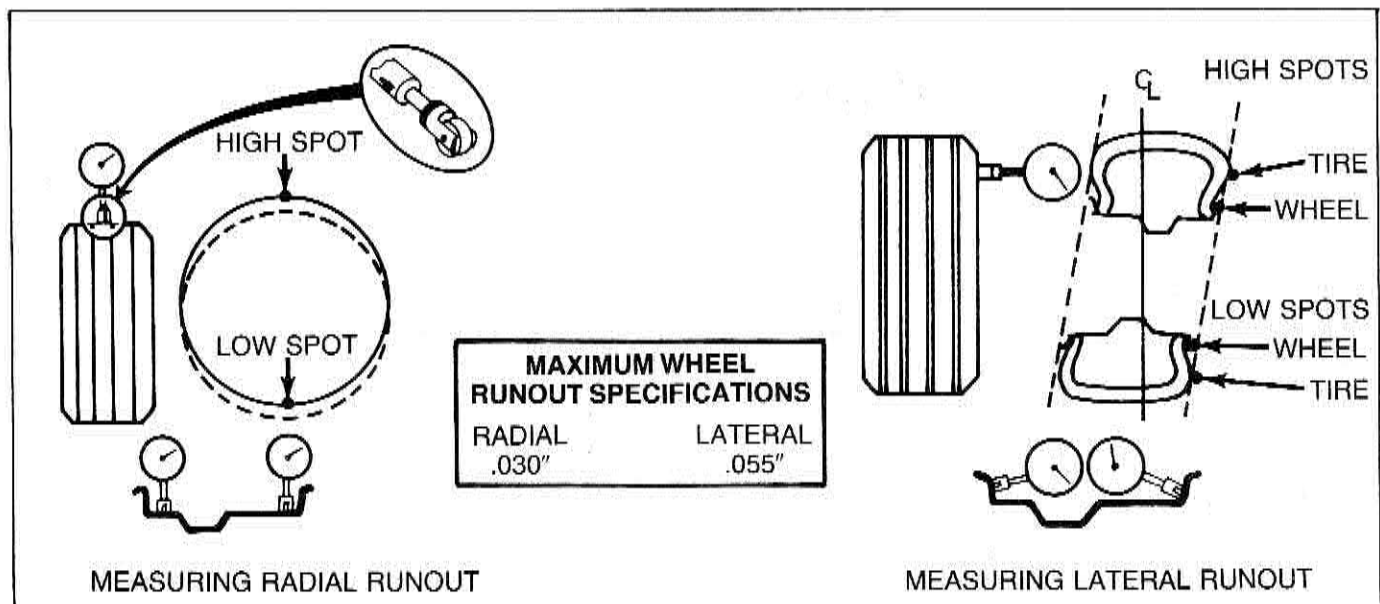

Figure 3-21 — Radial/Lateral Runout Measurement
3. Remove the tire from the rim and measure both the radial and the lateral runout at the bead area of the rim as shown in Figure 3-21. Using chalk, mark the high point on the radial runout of the rim.
4. Check the runout specifications listed in Figure 3-21. If the runout does not exceed the listed specifications, remount the tire on the rim. Position the high point of the tire (marked with chalk) OPPOSITE (180 degrees) from the chalk mark designating the high point of the rim. This procedure presents the least amount of radial vibration potential.